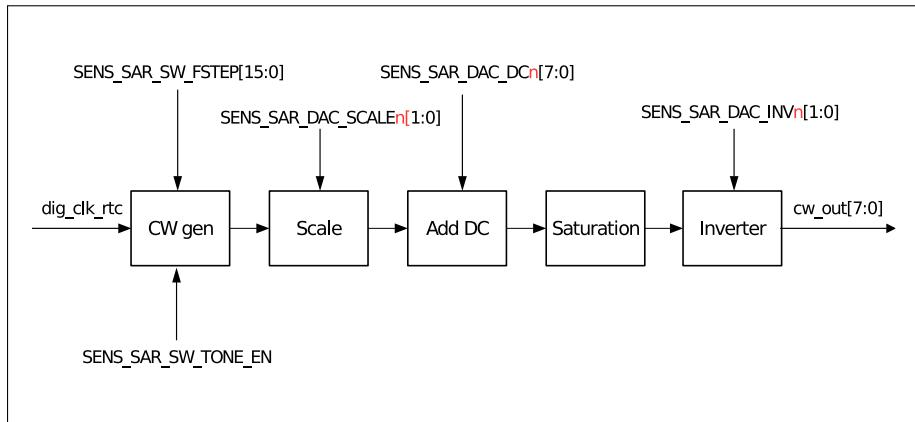

Figure 31.4-2. Cosine Waveform (CW) Generator
The cosine waveform (CW) generator can be used to generate a cosine / sine tone. A diagram showing cosine waveform generator's function is presented in Figure 31.4-2.